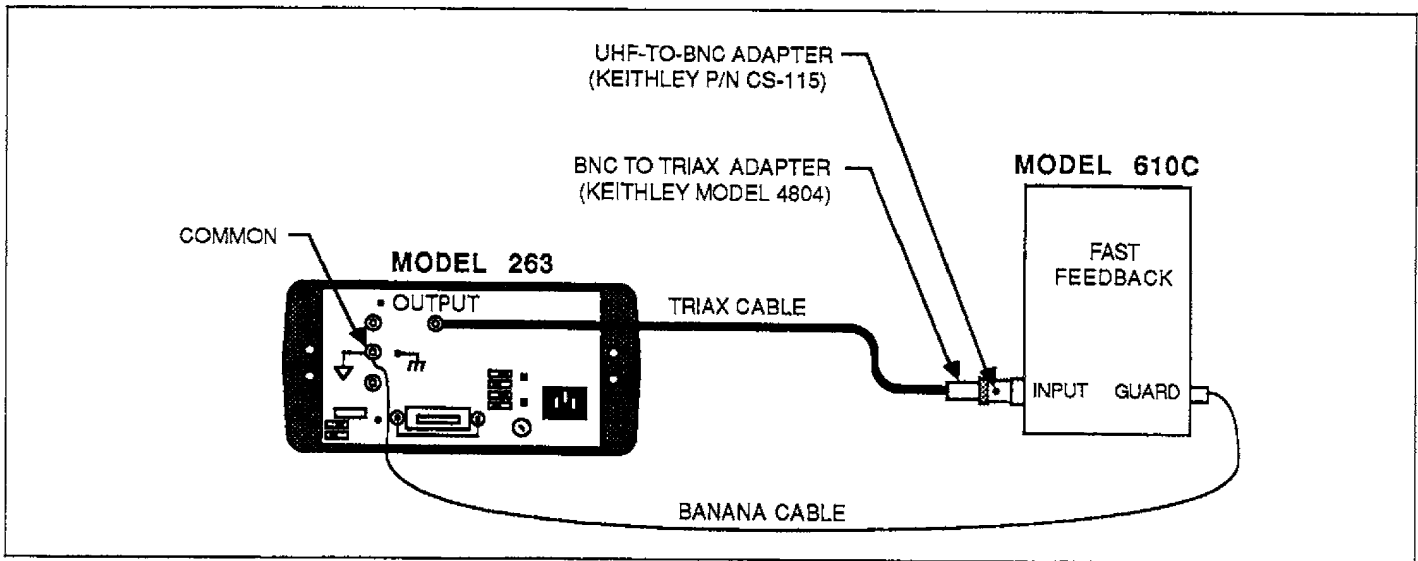

Figure 5-11. Model 610C Ohms Accuracy Checks ( $\geq 1\text{G}\Omega$ )
3. Ohms (step d) — The procedures in this paragraph require precision resistors to check accuracy. Instead, use the Model 263 to source the appropriate resistance. When sourcing 100MΩ or more to the Model 610C, use guarding. For guarded ohms, enable guard on the Model 263, place the feedback switch of the Model 610C in the FAST position, and connect the instruments as shown in Figure 5-11.